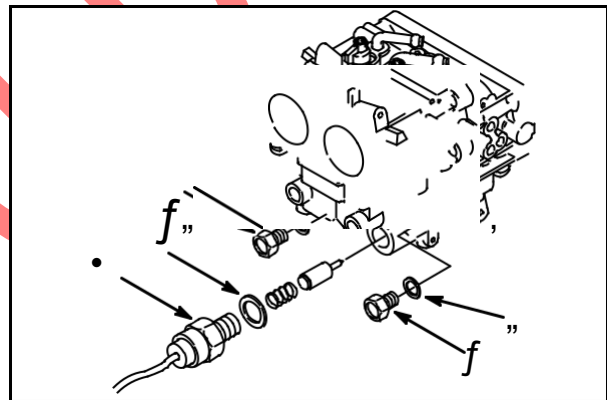

Fig. 60
Remove anti-afterfire solenoid (1) with washer (2), Fig. 60.